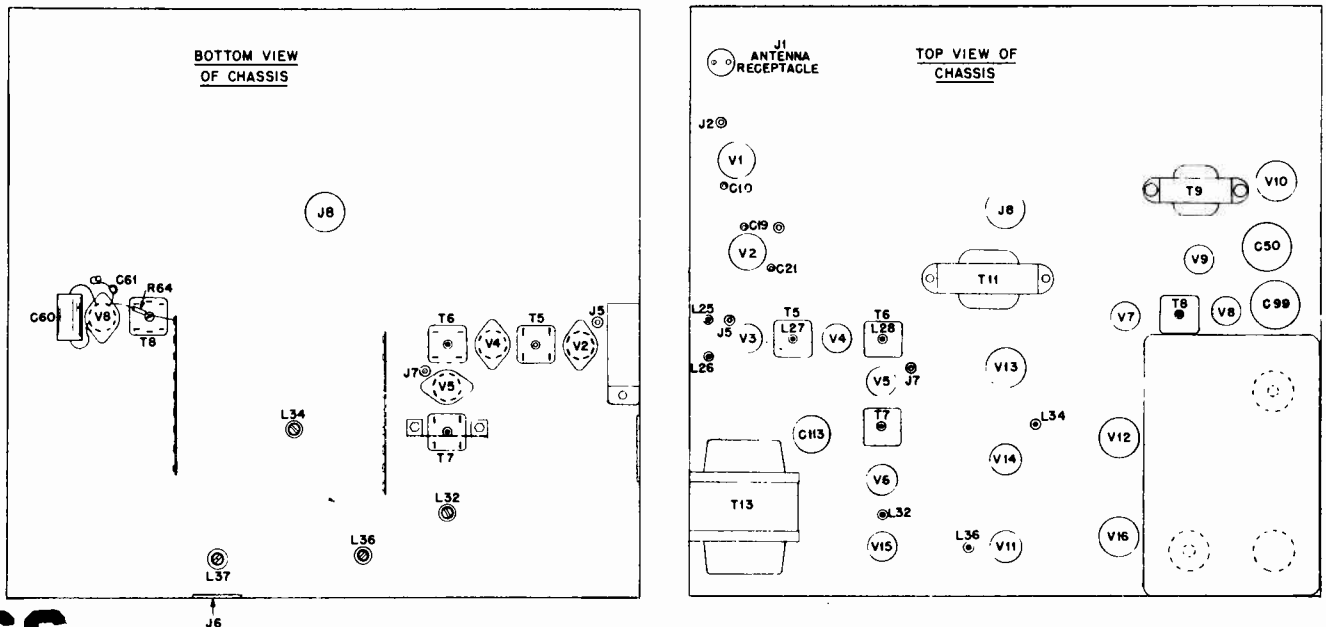
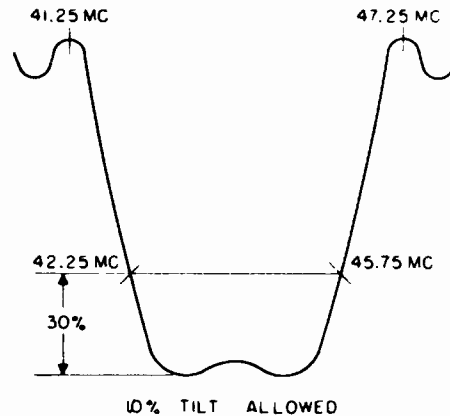

FIGURE 7. ALIGNMENT ADJUSTMENT LOCATIONS
FIGURE 9. OVERALL IF RESPONSE CURVE
6. Using leads as short as possible, connect the sweep generator through a 1000 mmf capacitor to test receptacle (J-7), feeding into the grid of the third IF tube (V-5, see Figure 7). (Do not use the loose or "spraying" method of coupling.) Set the generator center frequency to 44 megacycles with a sweep deviation of 12 megacycles.
9. Move the sweep generator and capacitor to test receptacle (J-5, see Figure 7) feeding into the grid of the 1st IF stage. Set the sweep generator to 45.75 mc and adjust the 1st IF transformer T-5 to place the 45.75 mc marker 30% down from maximum response on the high side of the curve. See Figure 9. The resonance point of the IF coils and the traps will be found at two settings of the core. The correct setting is the one with the cores at the outer end of the winding (toward the top).
10. Set the sweep generator to 42.25 mc and adjust the 2nd IF transformer T-6 to place the 42.25 mc marker 30% down from maximum response on the low side of the curve. See Figure 9. The resonance point of the IF coils and the traps will be found at two settings of the core. The correct setting is the one with the cores at the outer end of the winding (toward the top).
L-27, which is located at the top of the 1st IF transformer, until the marker is at maximum attenuation on the curve. See Figure 9. Make sure the core is toward the outside of the trap winding (toward the top).
12. Set the sweep generator to 41.25 mc. Adjust the trap L-28, which is located at the top of the 2nd IF transformer, until the marker is at maximum attenuation on the curve. See Figure 9. Make sure the core is toward the outside of the trap winding (toward the top).
13. Apply the sweep generator and capacitor to the test receptacle J-3, which feeds into the grid of the mixer. See Figure 7.